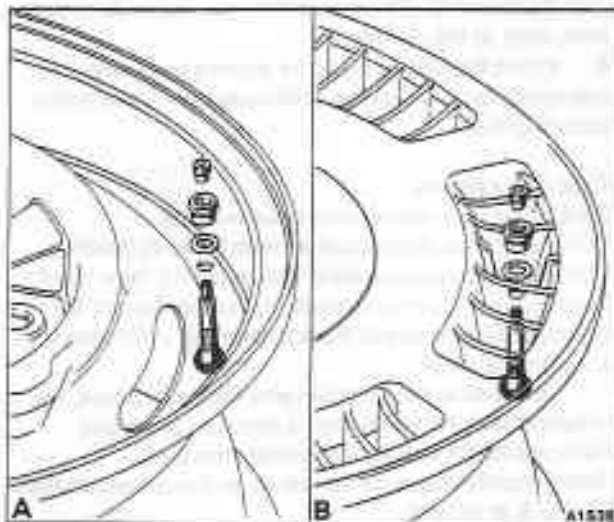

Fig. R3-1 Clamp-in tyre valves
3. Insert the valve into the hole in the wheel rim, then fit the valve securing nut and washer (see fig. R3-1). When fitting a new valve, do not use tyre bead lubricant or grease of any kind. Using a 14 mm ($\frac{9}{16}$ A/F) long reach socket, torque tighten the nut to between 2,9 Nm and 3,3 Nm (29,9 kgf cm and 33,4 kgf cm; 26 lbf in and 29 lbf in). Do not overtighten.
2. Insert the valve into the rim, then fit the valve securing nut and washer (see fig. R3-1). When fitting a new valve, **do not** use tyre bead lubricant or grease of any kind. Using a 14 mm (9/16 A/F) long reach socket, torque tighten the nut to between 2,9 Nm and 3,3 Nm (29,9 kgf cm and 33,4 kgf cm; 26 lbf in and 29 lbf in). **Do not overtighten.**